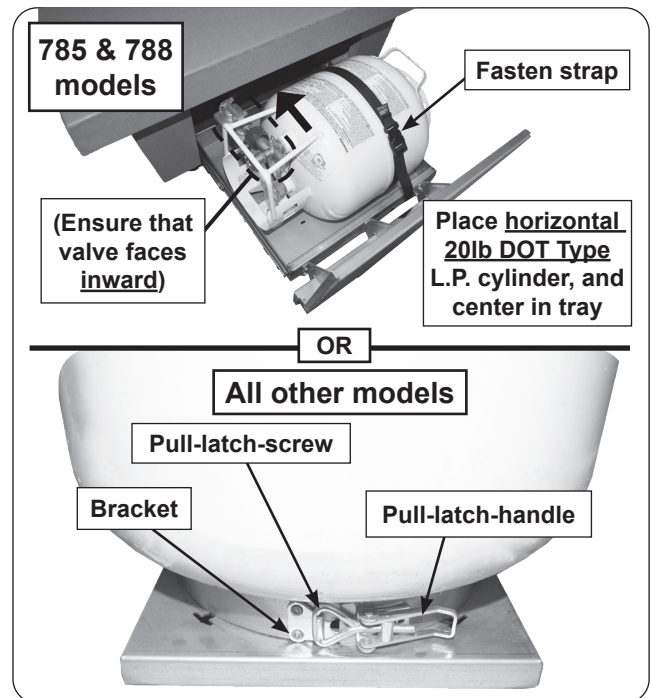
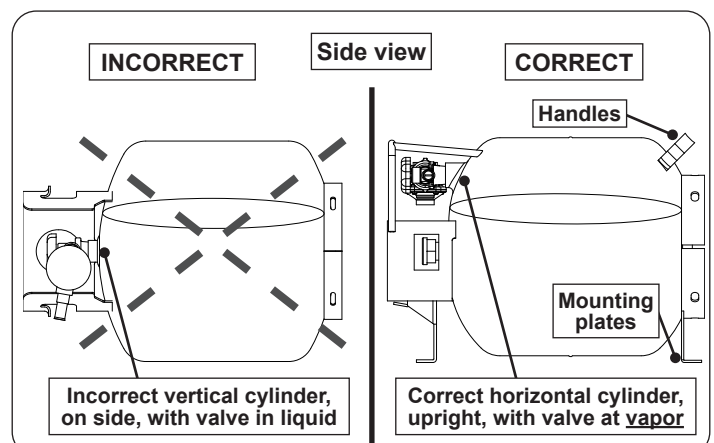

Fig. 39-2 L.P. Cylinder placement
Fig. 39-3 Horizontal L.P. Cylinder detail (if applicable)
3. The propane cylinder (not included) is to be located inside the base of the unit, via the storage door/drawer opening. Insert the cylinder into the tank holder tray and secure it. See Fig. 39-2, Fig. 39-3 (if applicable), and the details below:
- Ensure it is in the correct upright position, centered on the tray, and with the valve facing inward. See Fig. 39-2, 39-3 and follow the warning labels on the tank for proper placement.